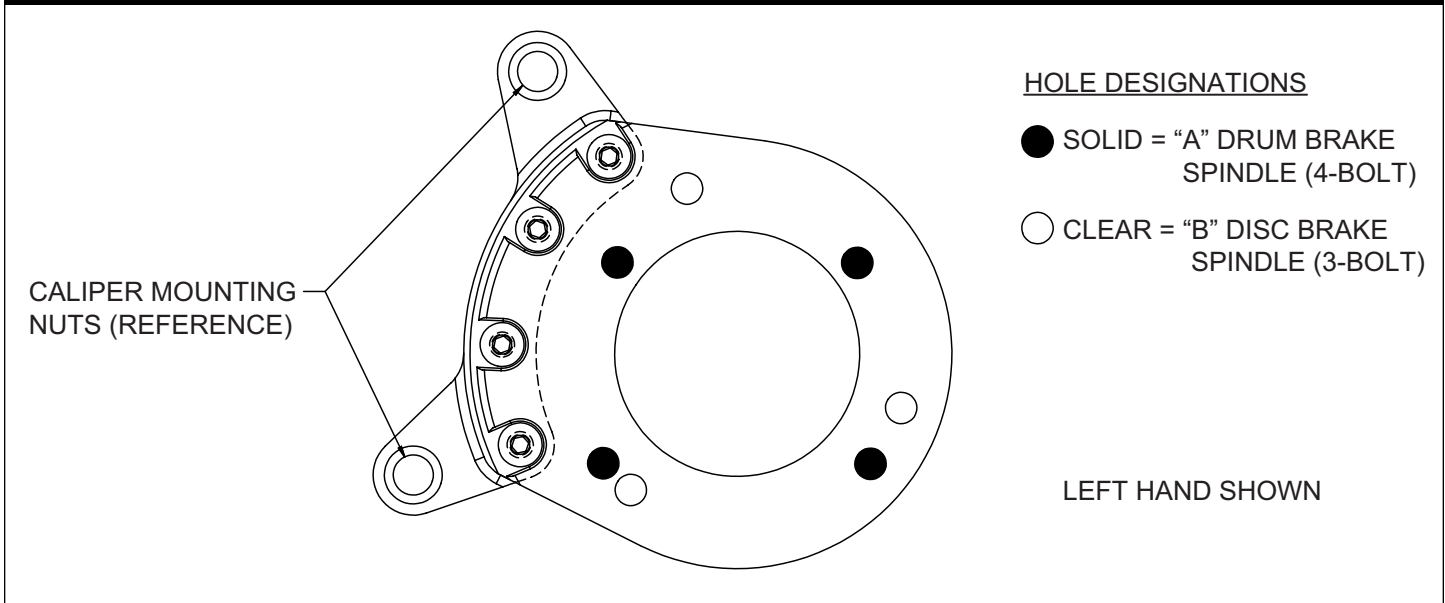
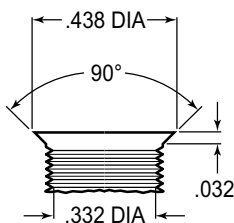
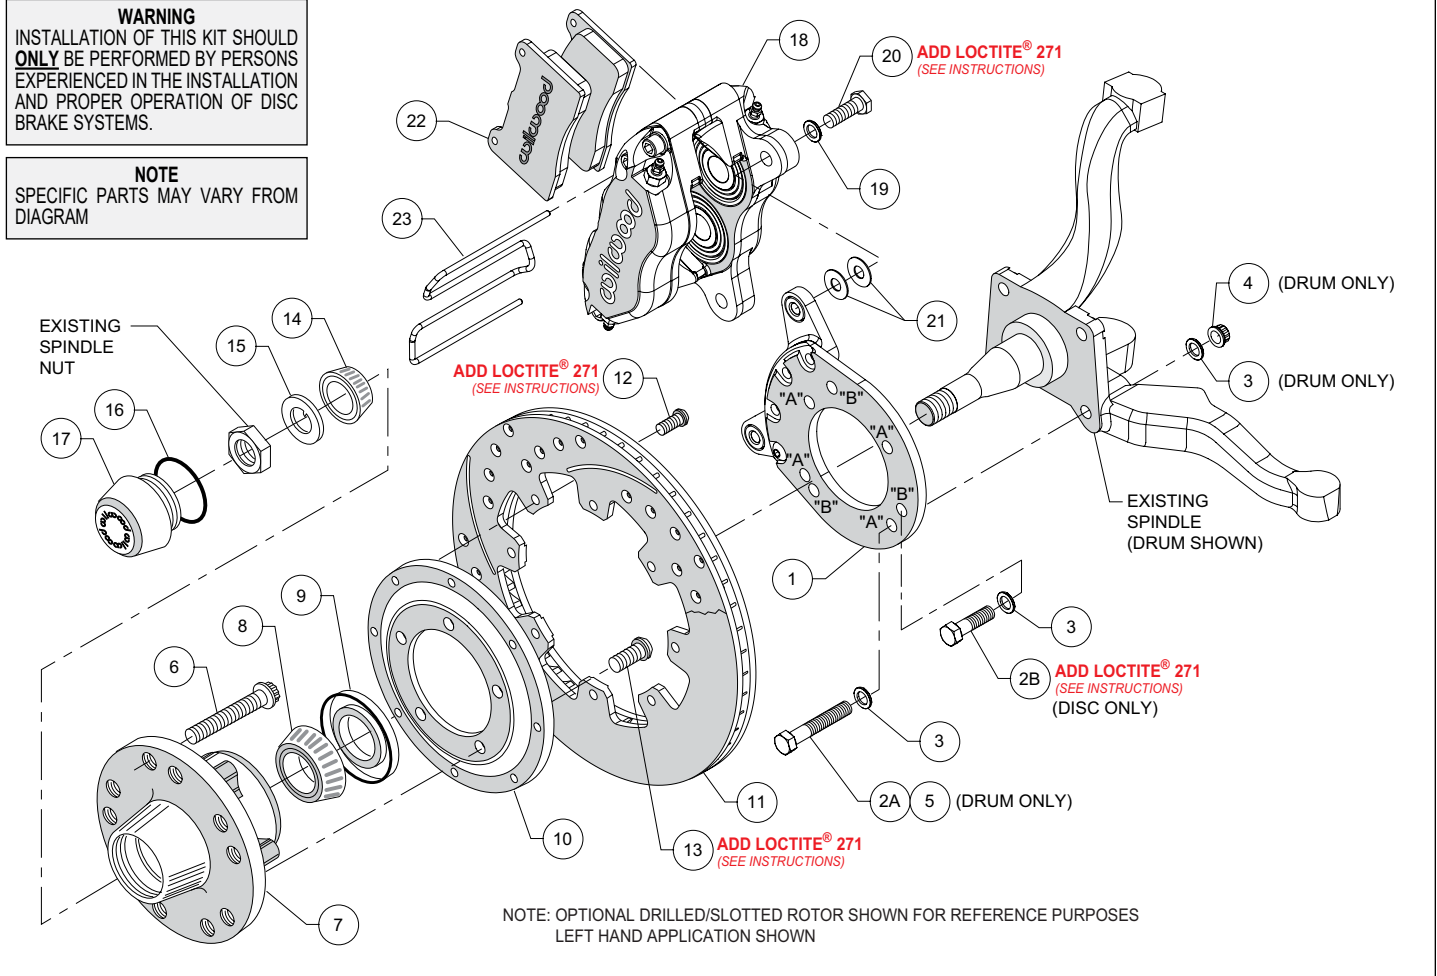
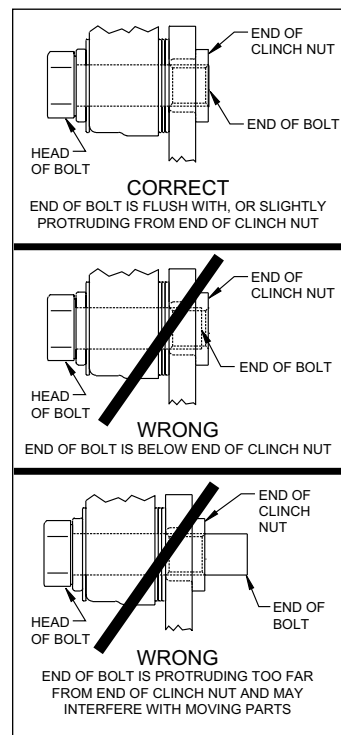

Figure 1. Wilwood Caliper Mounting Bracket
Figure 2. Drill and Tap Detail
Figure 4. Typical Installation Configuration
Figure 5. Clinch Nut Engagement Diagram
This kit has been designed for use with both the disc brake or the drum brake configuration of vehicle. The only difference is in how the Wilwood caliper mounting bracket is installed. The same bracket is used for both configurations; the disc brake version utilizes three mounting holes while the drum brake application uses four mounting holes (see Figure 1). For your convenience we have supplied bolt kits for both applications (see parts list and Figure 4 as necessary). Use the bolt kit that is applicable to your vehicle and disregard the other one.
NOTE: This modification should be performed by a qualified machinist and completed before assembly of the Wilwood disc brake kit begins. Using the caliper mounting bracket as a template (refer to Figure 1 as necessary), locate and verify the three original holes on the spindle that need to be modified. Drill a .332" diameter hole through all three holes, then tap 3/8-24 UNF (fine thread). Countersink the holes to .438" diameter x 90°, as shown in Figure 2.
NOTE: Numbers in parenthesis refer to the parts list on the preceding page and Figure 4.
CAUTION: All mounting bolts must fully engage clinch nuts. Be sure to check that all bolts are either flush or protruding through flanged side of clinch nut after shimming, Figure 5.
NOTE: This kit uses the same mounting bracket (1) for both the drum and disc brake spindles. The drum version, Photo 1, uses four mounting bolts (designated "A"), while the disc version, Photo 2, uses three (designated "B"). Refer to Figures 1 and 4 for the basic installation position of the bracket and the "A" and "B" reference designations (not physically marked on the brackets).
For Drum Spindle: Align bracket, using the four "A" holes, to the face of the spindle and attach using bolts (2A and 5), washers (3), and lock nuts (4), as shown in Figure 4. Ensure that the flanged heads of the clinch nuts in the bracket are facing outboard, Photo 1. Torque nuts to 30 ft-lb.
For Disc Spindle: Align bracket, using the three "B" holes, to the face of the spindle and attach using bolts (2B) and washers (3), as shown in Figure 4. Finger tighten. Ensure that the flanged heads of the clinch nuts in the bracket are facing outboard, photo 2. Remove bolts one at a time, apply red *Loctite*® 271 to threads, and torque to 40 ft-lb.
- Install the grease seal (9) by pressing into the backside of the hub (7), flush with the end of the hub, Photo 4.
- Orient the rotor (11) and the rotor adapter (10) as shown in Figure 4 and Photo 5. Attach the rotor to the adapter using bolts (12). Using an alternating sequence, apply red *Loctite*® 271 to the threads, and torque to 25 ft-lb.
- Mount the adapter/rotor assembly (10/11) to the hub (7) using bolts (13), as shown in Figure 4 and Photo 6. Using an alternating sequence, apply red *Loctite*® 271 to the threads, and torque to 45 ft-lb.
- NOTE:** Please reference the caution statement at the beginning of the assembly instructions. Mount the caliper (18) onto the caliper mounting bracket (1) using bolts (20) and washers (19), as shown in Figure 4. Initially place two .035" thick shims (21) on each bolt between the caliper and the bracket, Photo 9. Temporarily tighten the mounting bolts and view the rotor (11) through the top opening of the caliper. The rotor should be centered in the caliper, Photo 10. If not, adjust by adding or subtracting shims between the bracket and the caliper. Always use the same amount of shims on each of the two mounting bolts. **NOTE:** The end of each bolt must be flush with or slightly protruding from the head of the clinch nut, as shown in Figure 5. If necessary place spare shims between washer (19) and caliper mounting ear to achieve the proper clinch nut engagement. Once the caliper alignment and clinch nut engagement are correct, remove the bolts one at a time, apply red *Loctite*® 271 to bolt threads, and torque to 40 ft-lb.